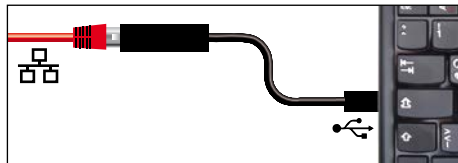

Fig. 7 Converter USB to Ethernet
- ▶ USB to Ethernet converter (Fig. 7). Makes it possible to connect the appliance's network interface (see page 11) to the USB port of a computer / laptop.